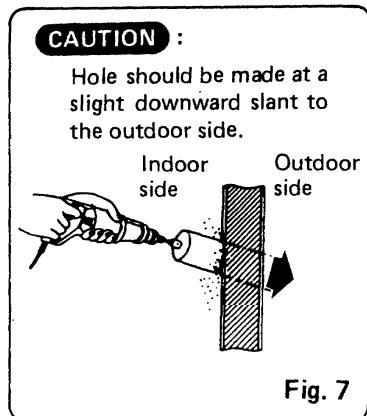

Fig. 7
d) Using a hole saw 3-5/32" dia. or key hole saw, cut a hole in inside wall. Fig. 7